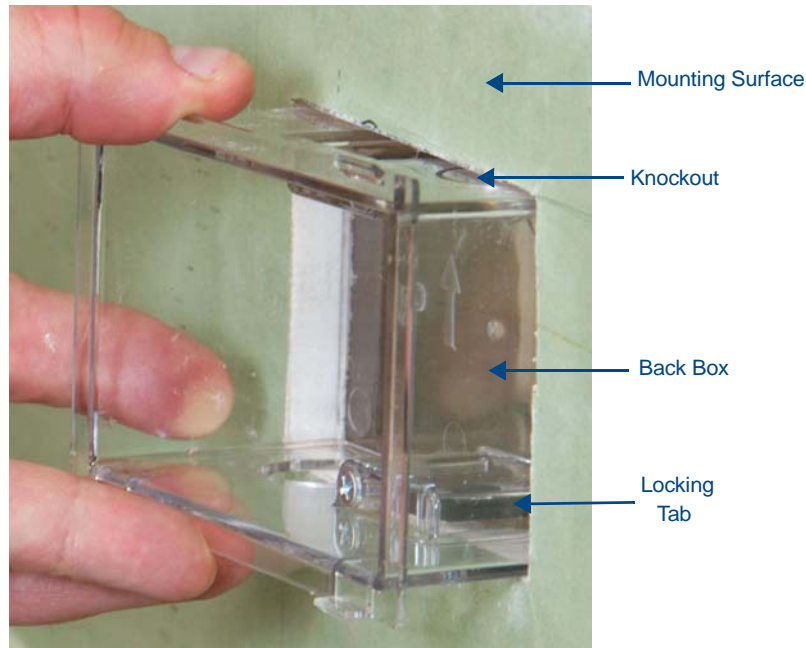

FIG. 10 MSD-431-L Back Box Installation
4. Thread the incoming Ethernet from their terminal locations through the surface opening (FIG. 10). *Leave enough slack in the wiring to accommodate any re-positioning of the panel.*
5. Remove the back box knockouts (FIG. 10) and thread the incoming wiring through the knockout holes.